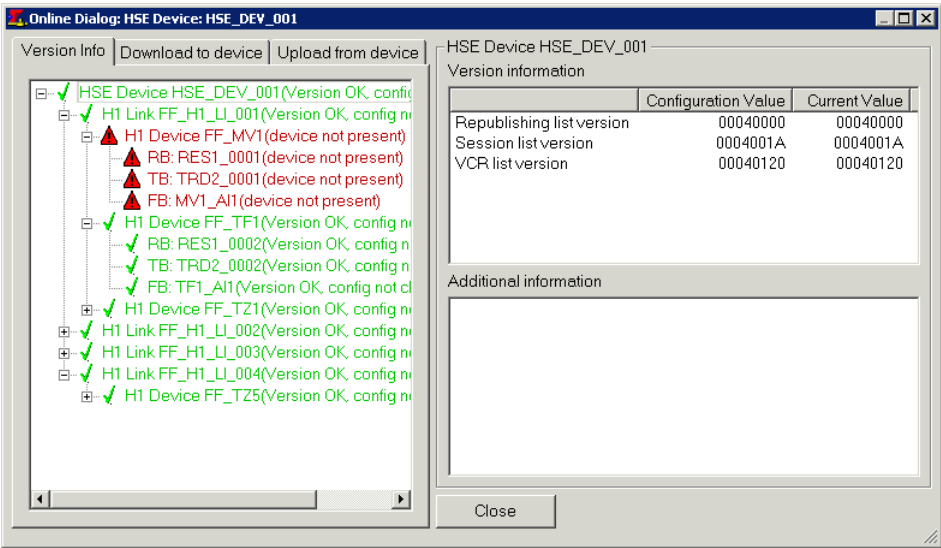

Figure 184. Online Dialog
- Open the Online dialog with **Object > Online Dialog...** (refer to Figure 184).